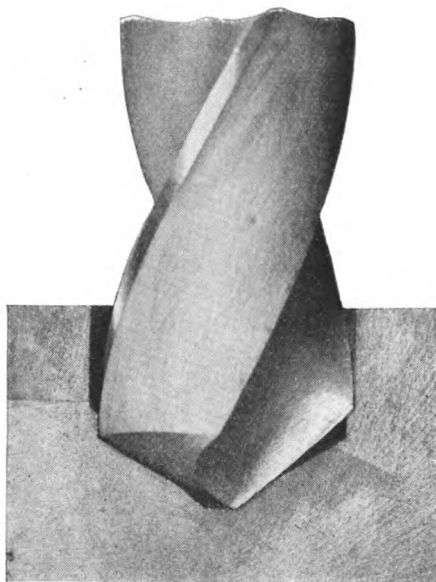
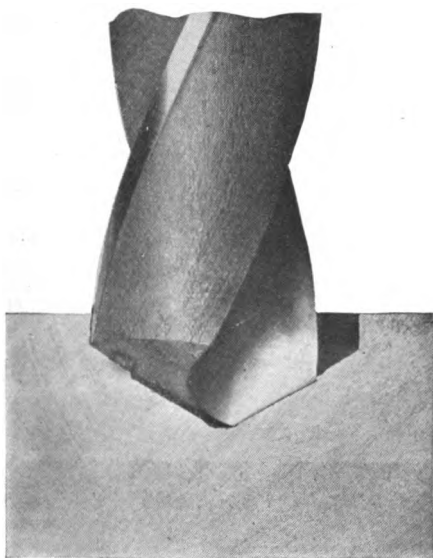

Fig. 16 — Incorrectly Ground Lips
Fig. 17 — Incorrectly Ground Lips
- 36 If we get the "Point" in the center but different *angles* on the cutting edges (Fig. 16), the drill will bind on one side. Only one lip or cutting edge will do the work — with resultant rapid wear on this cutting edge—and the hole will be larger than the drill.
as a result both the "Point" and lip will, of necessity, be off center. The result will be a hole actually *larger than the drill*. (Fig. 17.) The effect of this condition is the same as though you put the axle of a wheel any place but in the exact center of the wheel.
the short lip cuts the smaller hole while the long lip cuts the larger hole. Notice also how far from the true center the tip and point of the drill are located in Fig. 16, 17 and 18. This causes a strain which results in a "Side Play" in the drill press spindle.
40 Particular attention is called to Figs. 16, 17 and 18, showing the results of unequal angles of cutting lips and unequal length of cutting lips. Notice how much larger the hole is than the drill. Also notice where the lips are of unequal length (Fig. 17), that